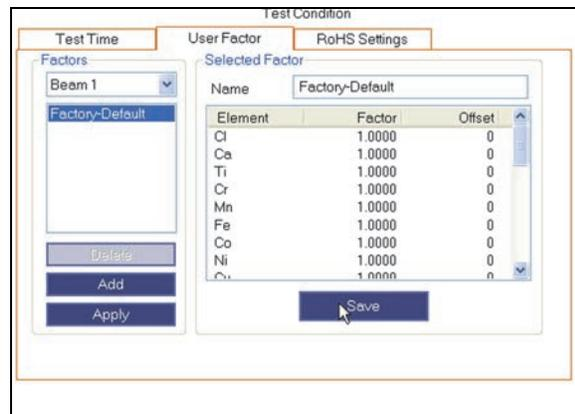

Figure 4-3 The User Factor tab
3. On the **User Factor** tab, click **Add** (see Figure 4-3 on page 71).